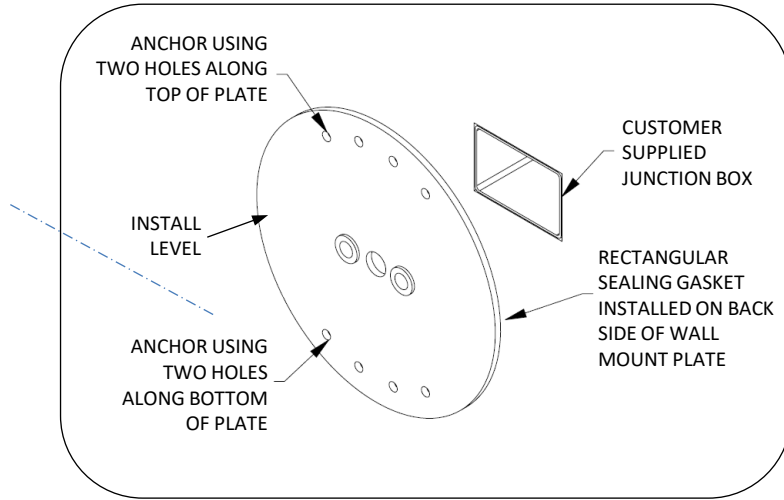

Fig. 1 – INSTALL WALL MOUNT PLATE
2. Place wall mount plate in position over junction box and mark hole locations. Plate should be anchored using at least two holes at the top and at least two holes at the bottom. Anchors are the responsibility of the installer. Wall mount plate has (8) $\varnothing 9/32$ holes for anchoring. Plate is 0.18" thick, with trim ring gasket installed on front side and rectangular gasket installed on back side, see Fig. 1.